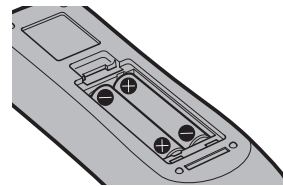

Fig. 2
- 2) **Insert batteries and close the cover (insert the "⊕" side first). (Fig. 2)**